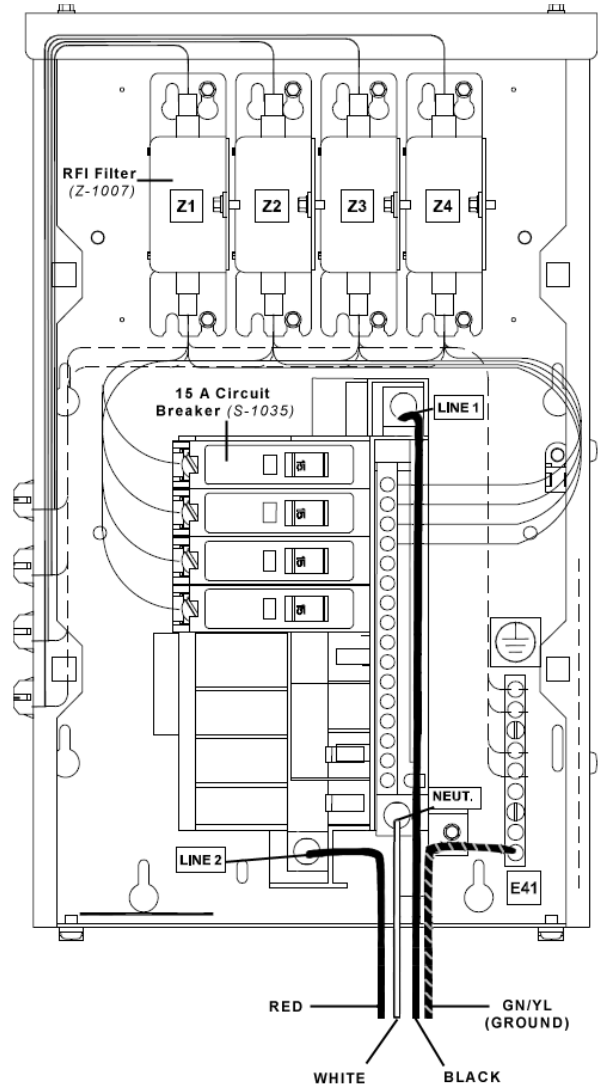

Figure 19: Multi-Court Power Termination (120/240 V)
6. Connect the power cables as follows and shown in **Figure 19**: